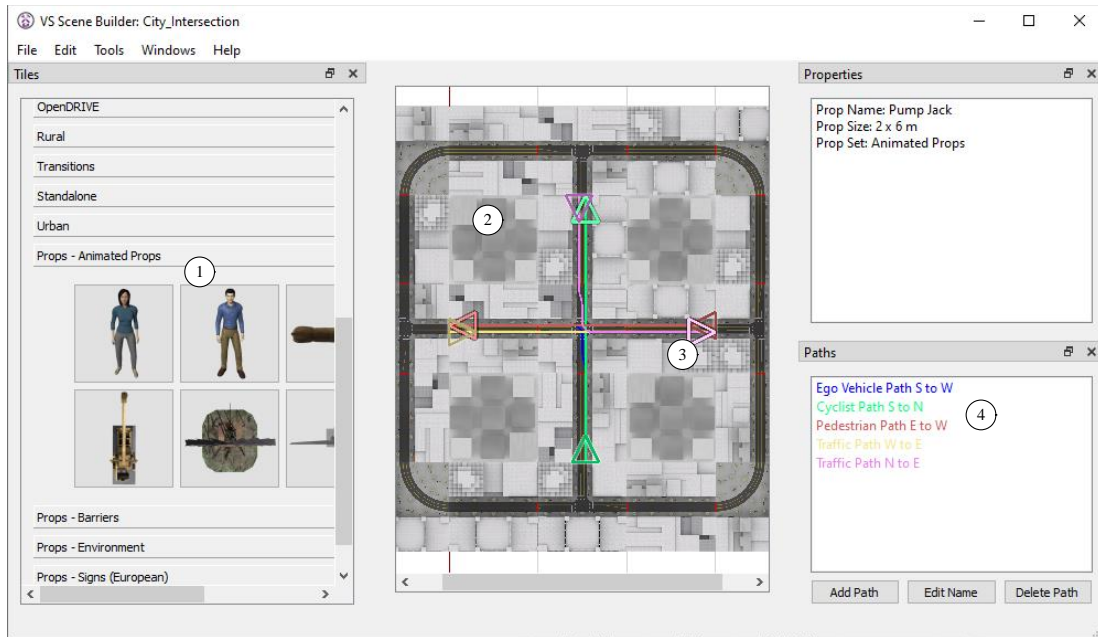
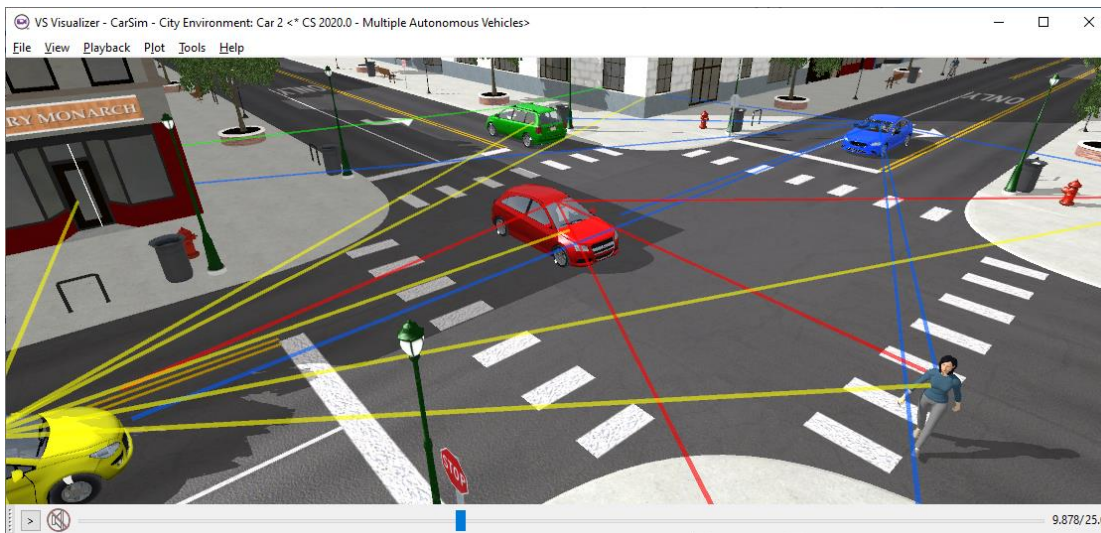

Figure 18. VS Scene Builder tool from CarSim.
Figure 19. Urban scene with buildings and roads from VS Scene Builder.
CarSim includes the VS Scene Builder, a tool for assembling a scenario from a library of tiles and 3D assets such as animated pedestrians, barriers, and signs (1) (Figure 18). The tiles are connected to form a scenario region (2), and a path or series of paths are created by clicking on the arrows presented on the tiles (3). These paths, along with the terrain and animation assets that make up the tiles, are imported into CarSim (4) to define the driving environment. Figure 19 shows the urban scene in VS Visualizer after it has been imported into CarSim.
Multiple vehicles in a single solver instance. Starting with version 2020.1, the VS Math Model can be constructed to include up to four independent vehicles. Each vehicle has its own set of controls (open-loop and/or closed-loop, powertrain, brake system, etc.). All vehicles share the same environment with the same ground surface, paths available for controllers, and other “actors” such as pedestrians. Each vehicle can be detected by other vehicles. Figure 19 (page 16) shows four complete vehicles all running in the same environment. See **Help Tech Memos > Simulations with Multiple Vehicles**. (BikeSim does not support this option.)
Co-Simulation with Parallel CarSim Solvers. Up to 20 VS Solver libraries can be used in parallel under MATLAB/Simulink, dSPACE SCALEXIO, Concurrent SimWB, NI Linux RT, or ETAS RT. These are set up using a dedicated GUI screen (**Tools > Parallel Solvers**) in which a CarSim VS Solver library is duplicated and given a unique name. These VS Solver libraries — along with their associated data — will all be loaded into a single simulation. The example simulation shown in Figure 19 (page 16) can also be run under the control of Simulink. See **Help > Tools > Running with Parallel Vehicles**.